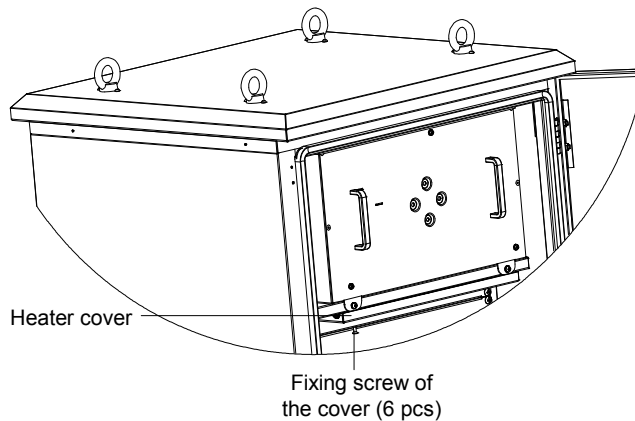

Figure 5-10 Fixing screws of heater cover
Step 2: Loosen the six fixing screws of the heater cover shown in Figure 5-10 and then remove the heater cover.